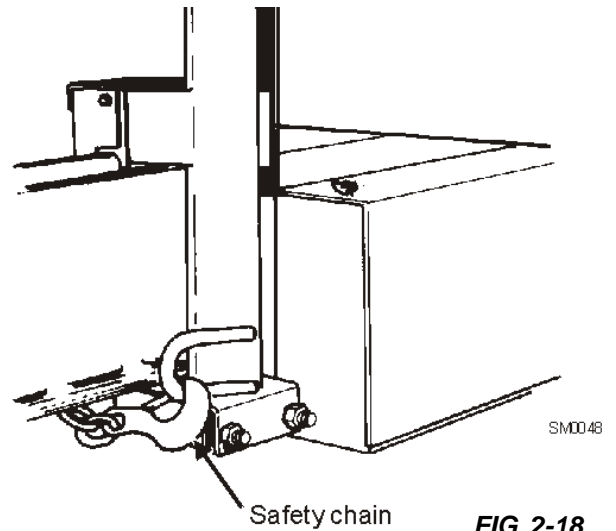

FIG. 2-18
7. Hook the carriage safety chain located at the bottom of the carriage to the bracket at the bottom of the mast. **See Figure 2-18.**